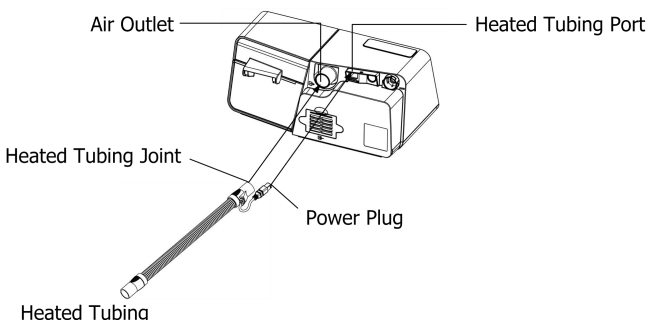

Fig. 12-6
(2) Or if the heated tubing is applied, connect the heated tubing joint to the air outlet of the device, and then insert the power plug of the heated tubing into the heated tubing port on the back of the device, as shown in Fig. 12-6.